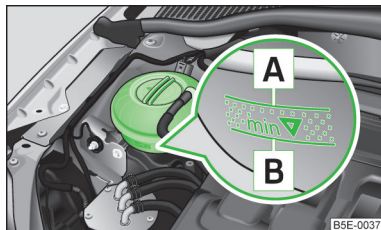

Fig. 185
When refilling, only use antifreeze with the name specified on the coolant expansion tank » Fig. 185 on page 222.
- Do not fill the coolant above the mark  » Fig. 185 on page 222.
- Check the coolant level in the coolant expansion tank » Fig. 185.